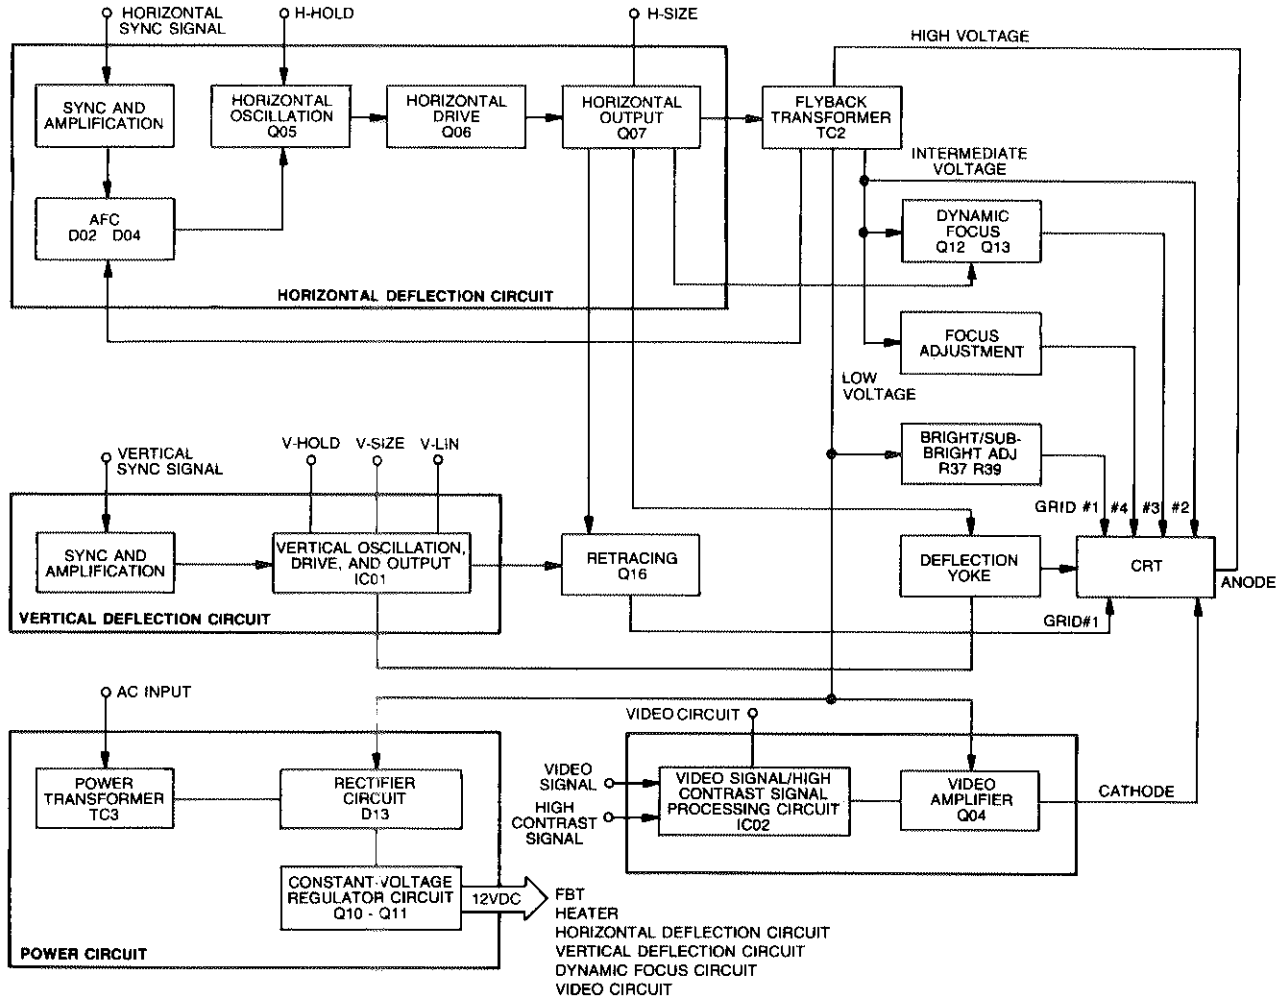
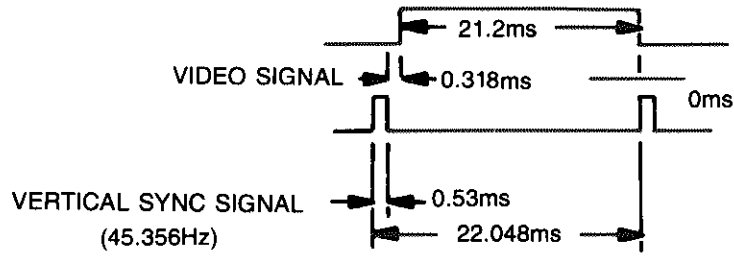

FIGURE 2-104. MONOCHROME MONITOR BLOCK DIAGRAM
FIGURE 2-109. VERTICAL SYNC SIGNAL
2.8 MONITOR OPERATION (Figure 2-104)
The model Q602 monitor is a monochrome, raster scan display with the internal circuitry diagrammed in Figure 2-104: a power supply circuit and flyback transformer; video sync and processor circuitry, vertical and horizontal deflection circuits; blanking; and dynamic focus. Timing diagrams for the CRT are included in Figures 2-109 through 2-111, at the end of the monitor section.